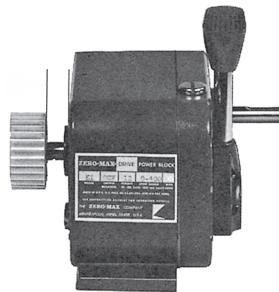

FIG. 2
**STEP III** Insert the nylon gear onto the input shaft of the Zero-Max Drive matching the internal flat in the gear to the external flat on the shaft. Tap lightly with a soft hammer on the center portion of the gear, being careful not to strike the gear on the gear teeth. The gear will be in place when it is  $\frac{1}{32}$ " from the drive case disregarding the bead and the boss. (See Fig. 2)
**STEP I** Using a Phillips Head screwdriver remove Zero-Max drive case screws, Nos. 1, 4, and 6 as shown in Fig. 2.